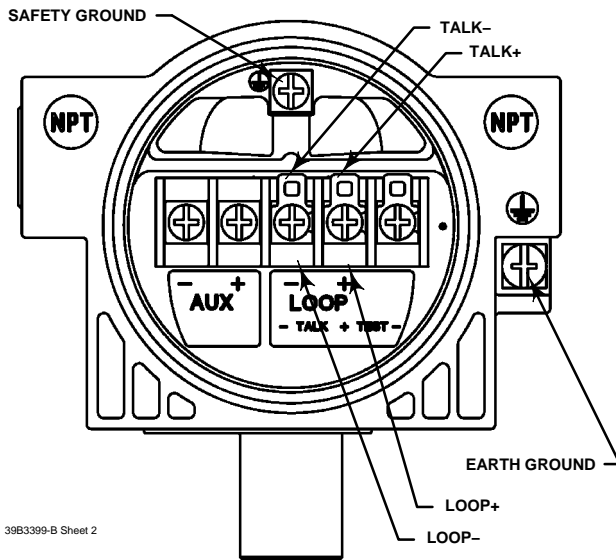

Figure 2-20. FIELDVUE DVC6000 SIS Digital Valve Controller Terminal Box
1. Remove the terminal box cap (key 4) from the terminal box (key 3).
3. Refer to figure 2-20. Connect the control system output card positive wire “current output” to the LOOP + screw terminal in the terminal box. Connect the control system output card negative (or return) wire to the LOOP – screw terminal.
4. As shown in figure 2-20, two ground terminals are available for connecting a safety ground, earth ground, or drain wire. These ground terminals are electrically identical. Make connections to these terminals following national and local codes and plant standards.